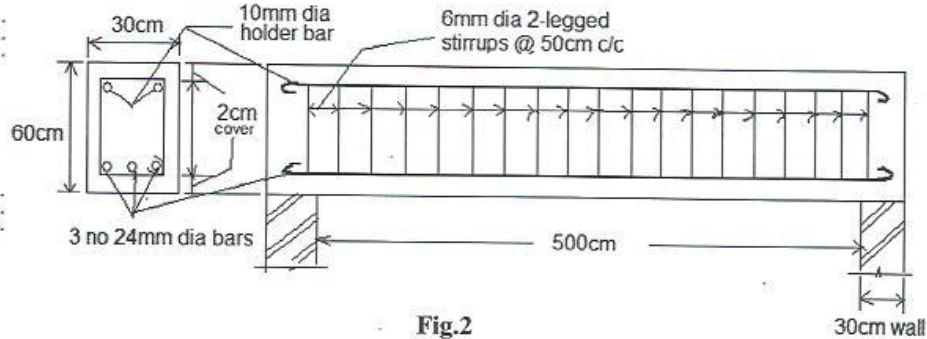

Fig.2
5. Fig. 2, shows the longitudinal section and cross section of a simple beam of clear span 5.0m. The thickness of supporting wall is 30cm. Work out the total quantity of cement concrete and steel reinforcement (mild steel). [15]